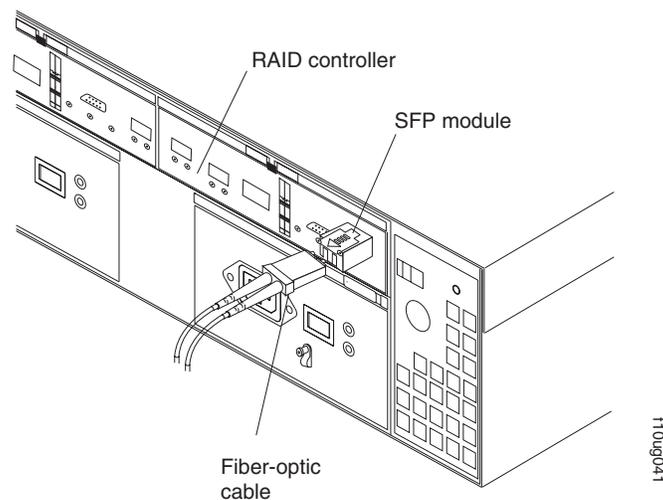

Figure 22. Installing an SFP module into the host port
4. Insert the SFP module into the host port until it clicks into place. See Figure 22.